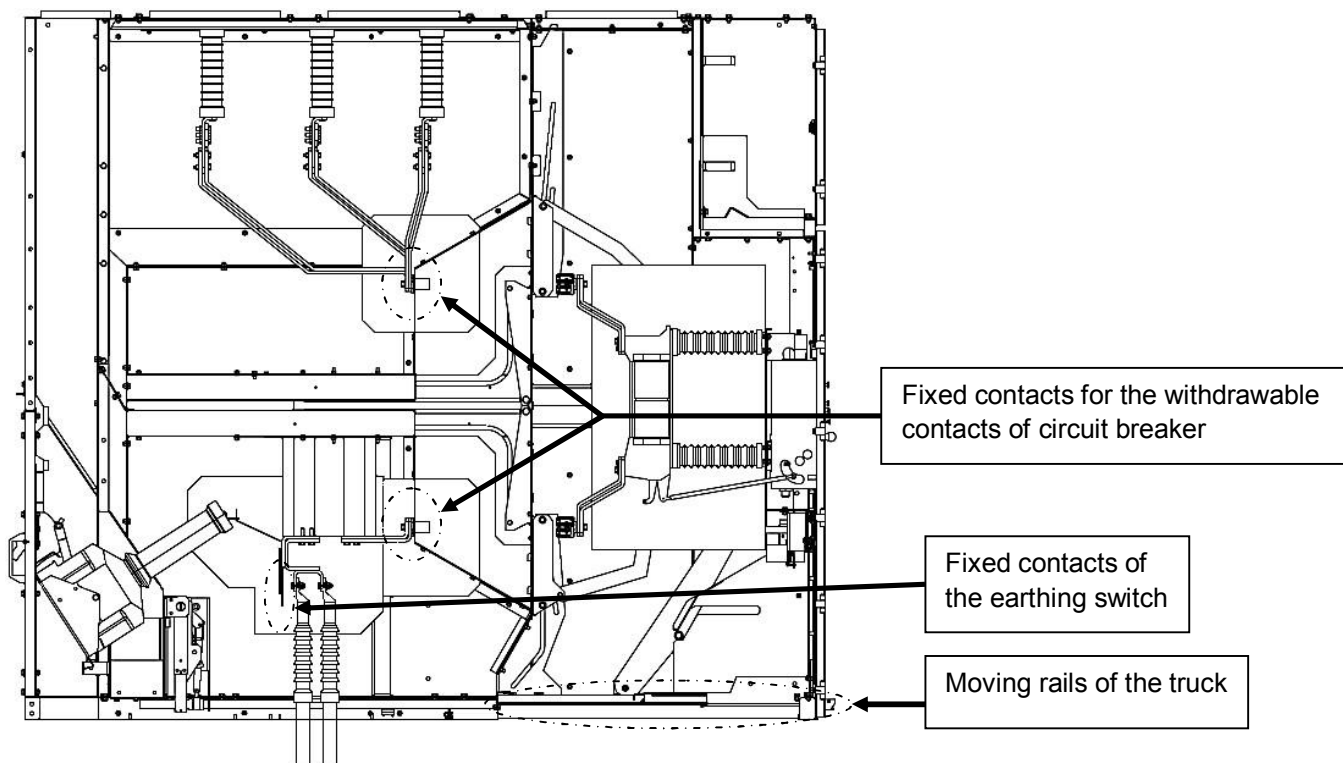

Fig102. Lubrication of the main contacts
- ⇒ Grease relevant parts with Klüber Isoflex Topas L32 (fig102).